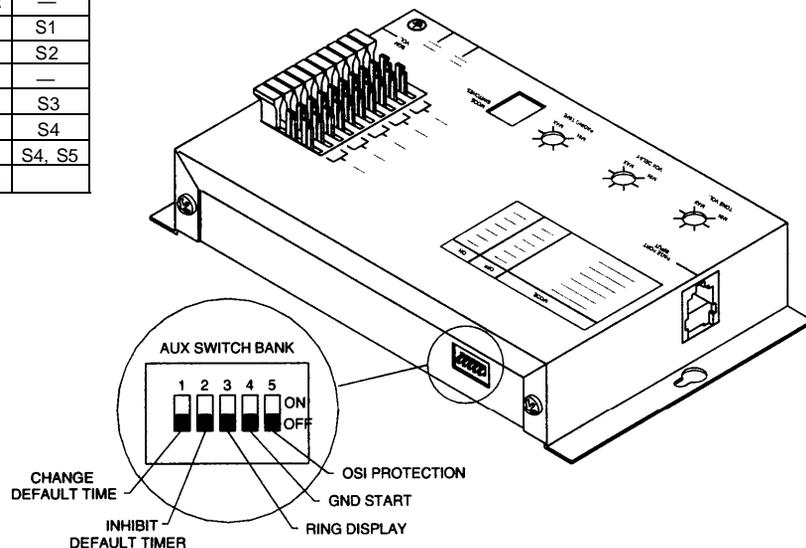

Figure 5. AUX Switch Bank Location (top edge of unit)
- Auxiliary Switch Bank (On top of unit)** Certain options are available (described in Specific Instructions on pages 9 - 18) and are selected by setting DIP switches on the AUX switch bank, accessible through an opening in the top of the UPAM case. See Figure 5 (page 16) for its location on top of the unit.
4. Set AUX switch S4 to ON position (located on top edge of unit - see Figure 5 on page 16).
4. Set AUX switches S3, S4 and S5 to ON position (see Figure 5 on page 16).
5. Connect "Tip" of station port to T terminal of UPAM (see Figure 5).
Some phone systems (in particular, Centrex-type systems) may produce open-switch-intervals (OSIs) when the UPAM first answers the line. OSIs are short breaks in loop current resulting when the central office switches equipment on and off the line. The UPAM may misinterpret these OSIs as disconnect signals. It may be necessary to set AUX switch bank switches S4 and S5 in their OFF positions (AUX switches are located on top edge of unit - see Figure 5 on page 16) if the UPAM exhibits any of the following symptoms during station mode operation.